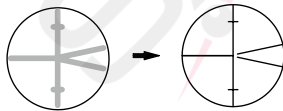

Fig. 4
- Rotate the eyepiece to ensure that the reticle is clear (fig. 4)